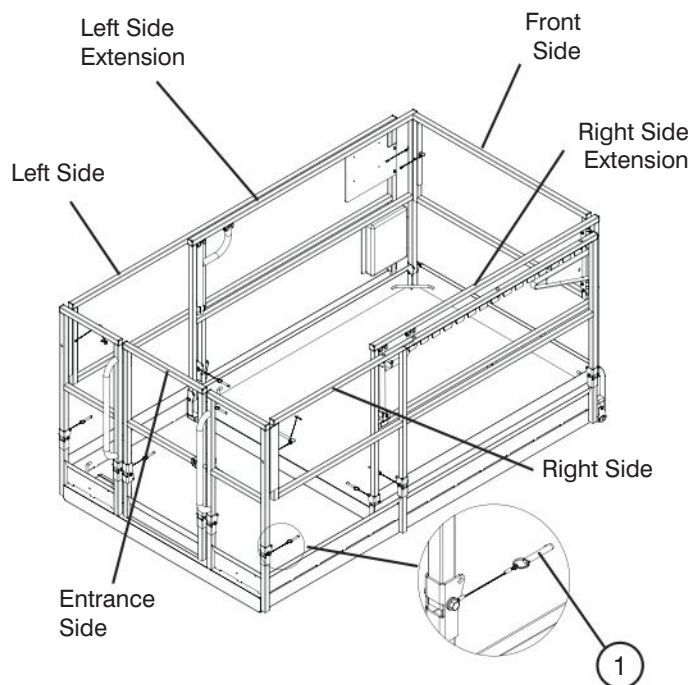

Figure 3-16a. Folding Guardrail System
9. Fold down guardrails in the following order: front, right extension, left extension, right-side, left-side and entrance (refer to Figure 3-16a).